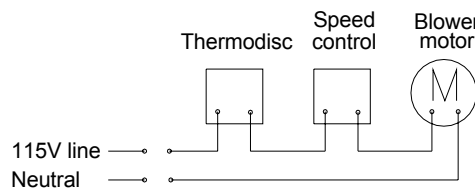

Figure 9
- Make the electrical connections (Figure 9). The electric power must be 115 volts and the speed control must be installed beside the fireplace at a convenient place.